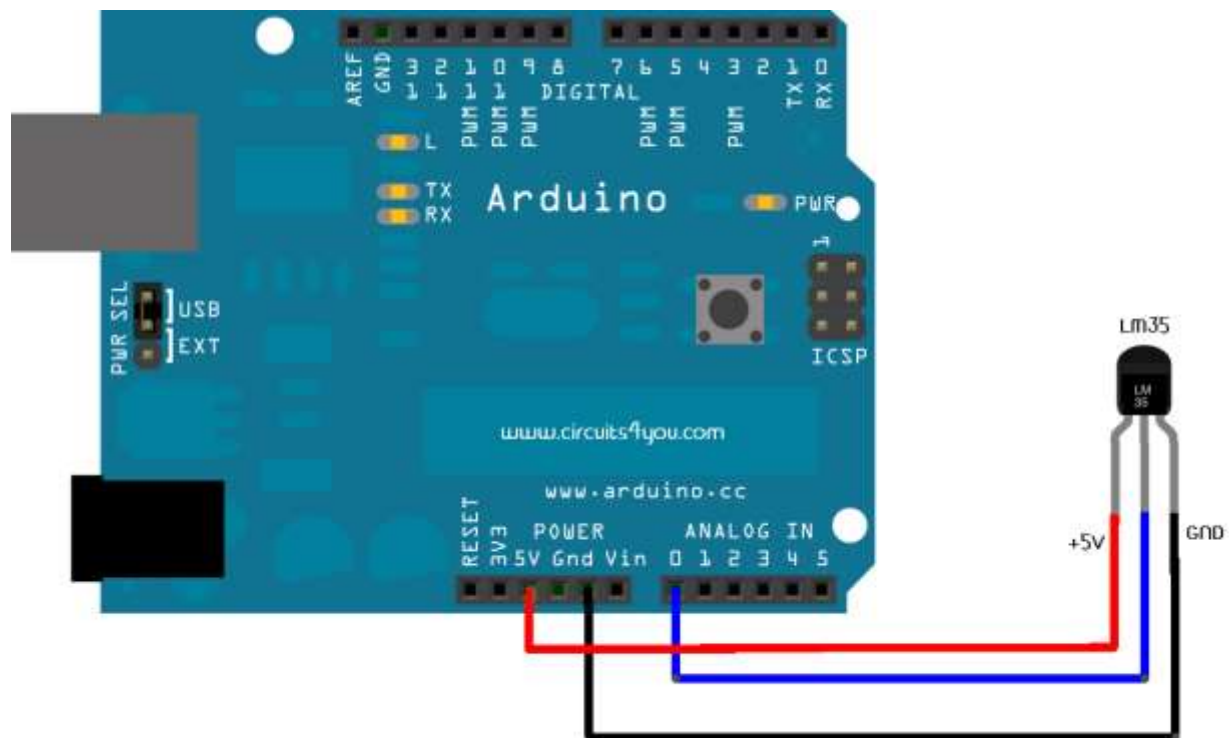

Fig. 2. Connections for the LM-35 temperature sensor with the Arduino.
- **Connections-** For connections, refer Fig. 2 and the following steps-